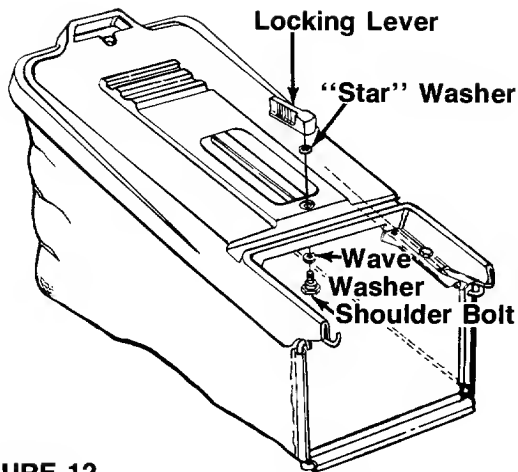

FIGURE 12.
- Insert shoulder bolt up through hole in hardtop cover as shown in figure 12. Place "star" washer over shoulder bolt.